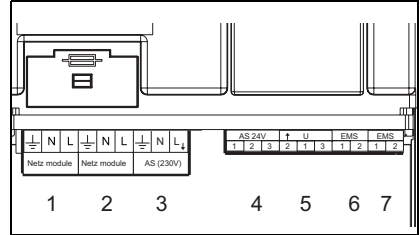
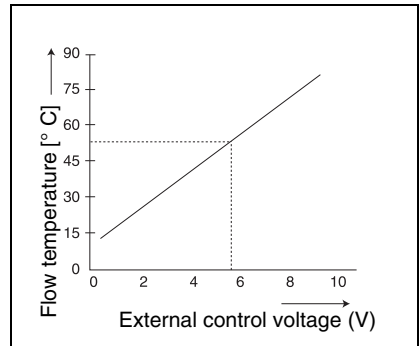

fig. 2 Connections
fig. 3 0 – 10 V diagram
Connect the EMS connection (fig. 2, pos. 6) of the EM10 with a 2-core cable to the RC- (or ) connection on the boiler (possibly parallel to the thermostat).
- a) The AS 24 V connection (fig. 2, pos. 4), this is a potential-free switching contact for low voltage signals of up to 24 V. This malfunction signal can for example, be evaluated by a building management system.
- b) The AS 230 V connection (fig. 2, pos. 3), this can for example operate a horn or warning light. In case of a malfunction, there will be 230 VAC on this connection.
The EM10 can be used as an interface between the boiler and, for example, a building management system. With the 0-10 V DC signal (fig. 2, pos. 5), the flow temperature or the power of the boiler can be controlled (fig. 3).
This control is activated if pins 1 and 3 are bridged. See fig. 2, pos. 5 and the wiring diagram on page 47. The EM10 transfers the 0-10 V signal to a power setpoint. This is a linear ratio, see table 2.